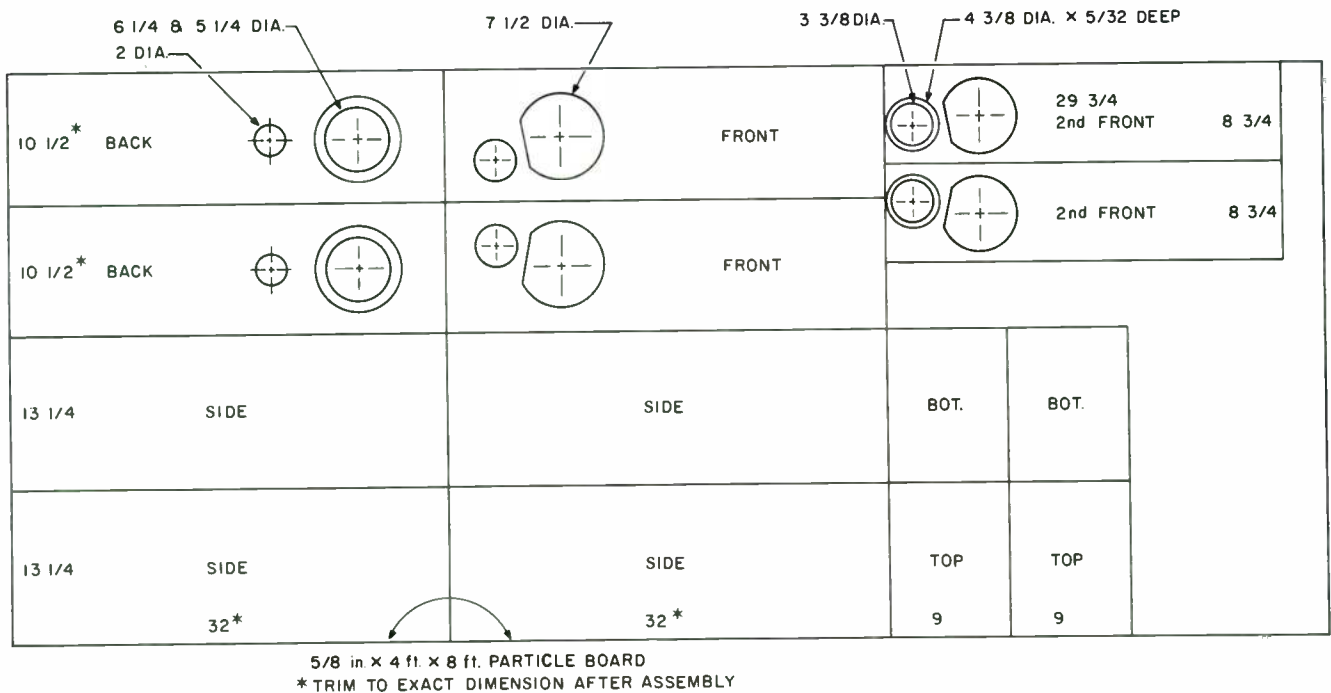

FIGURE 1: Cut the particle board using this pattern to make all the sections for two cabinets.
**CONSTRUCTION.** I began by cutting out all 14 panels from the  $\frac{5}{8}$ " particle board, leaving the front and rear panels a little over size on all sides, and the side panels a little over size only on the top and bottom ends. All of the other six panels were cut to exact size. For convenience, pre-cut the spacer ring and all cut outs before assembly (*Fig. 1*).